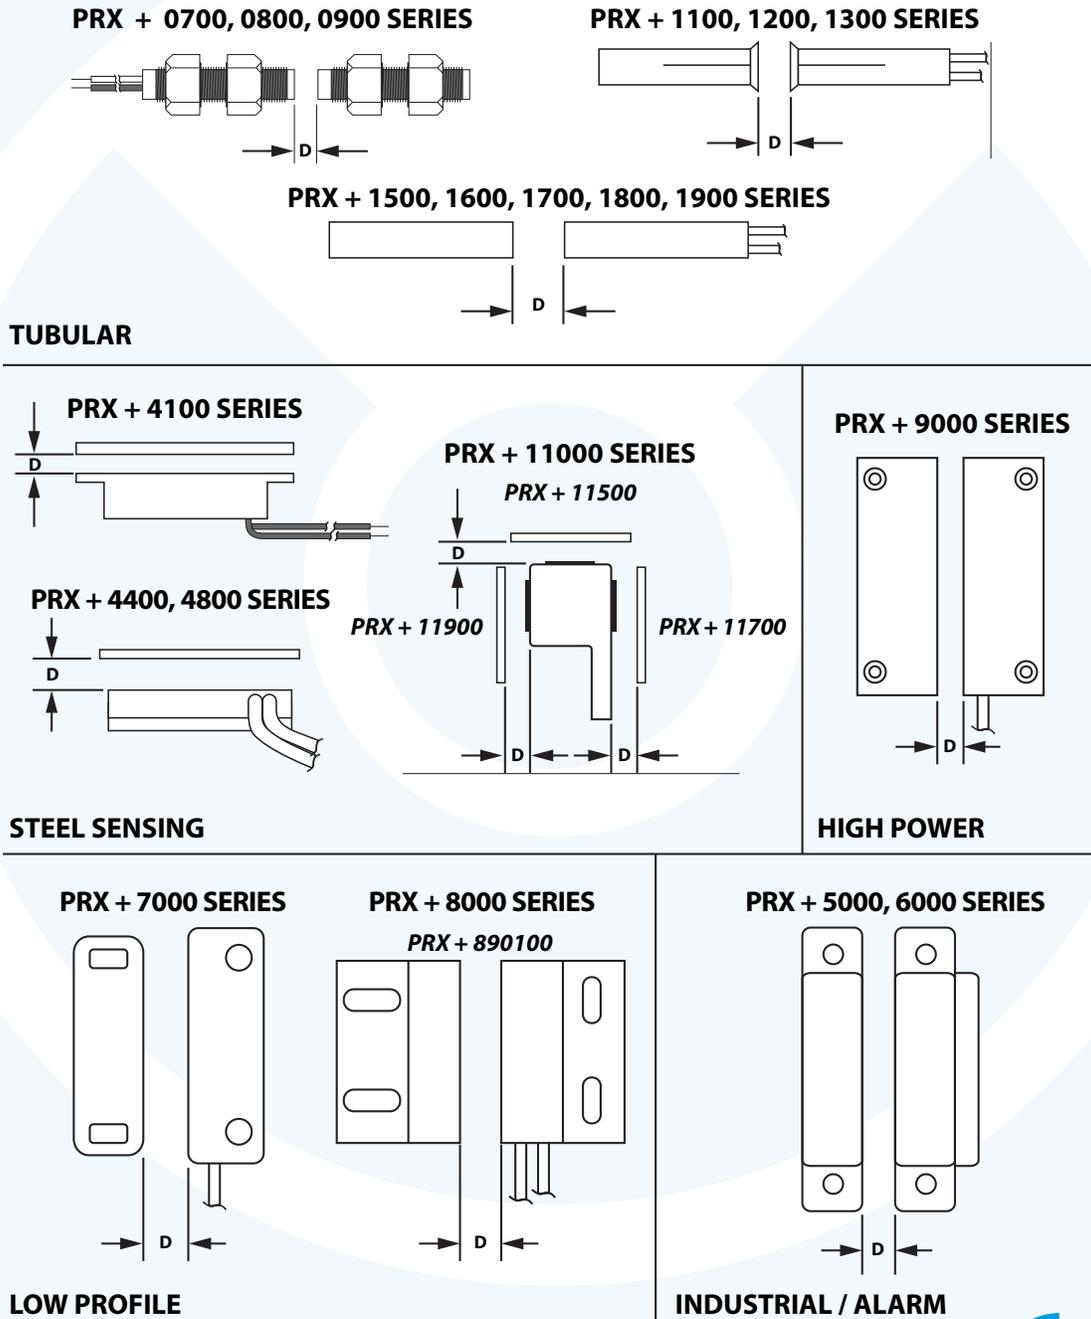

Figure 1
Operate distance (D) is the dimension between the proximity sensor and the actuator where the sensor must operate. Release distance is the dimension between the proximity sensor and the actuator where the sensor must release. See Figure 1 for illustrations of proper proximity sensor and actuator alignment.